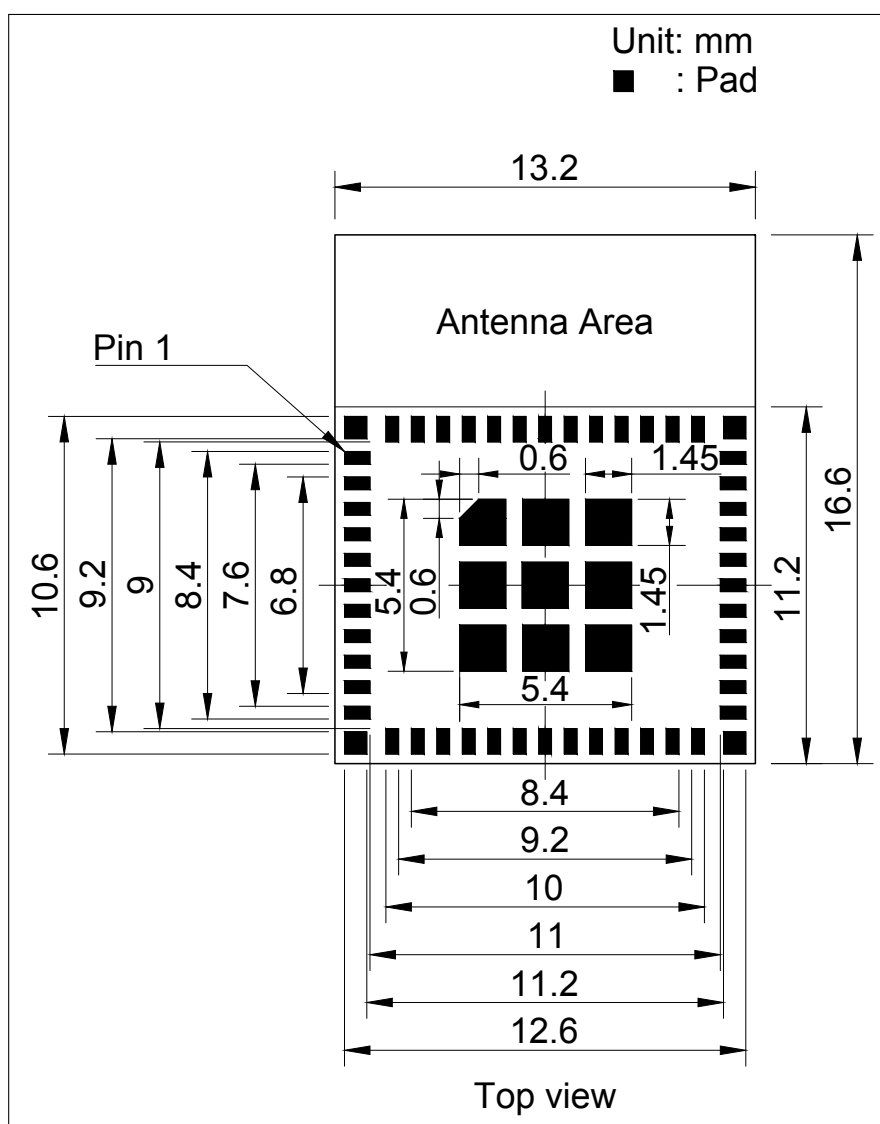
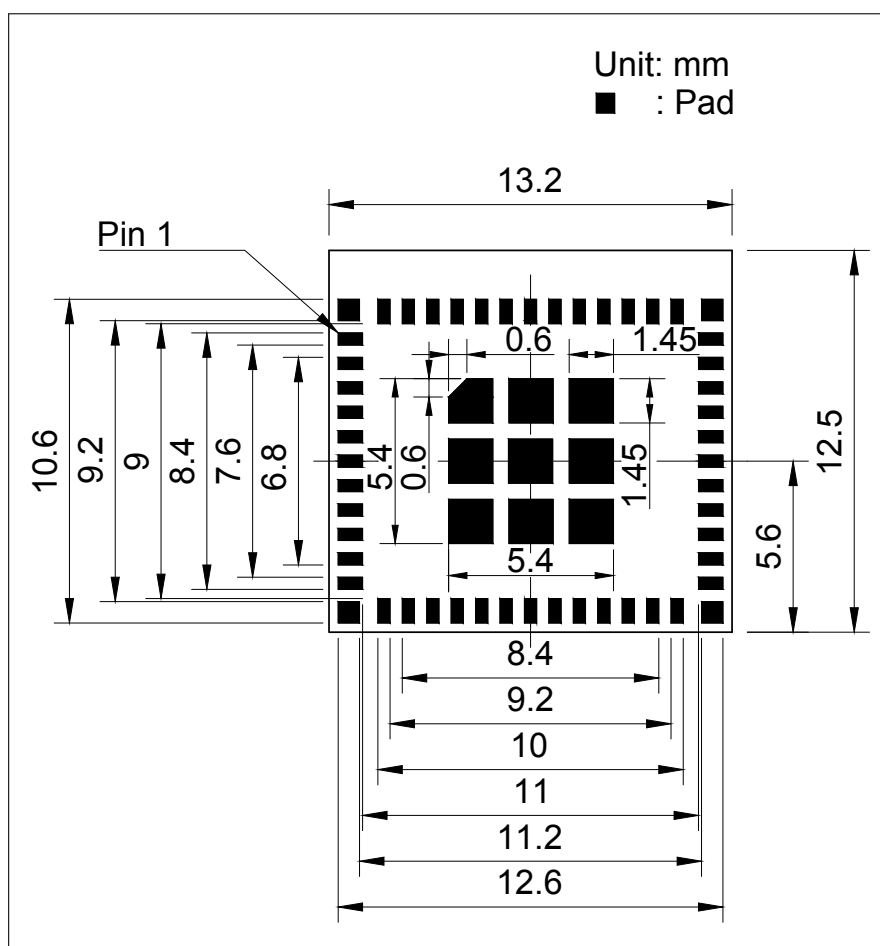

Figure 11: ESP8684-MINI-1 Recommended PCB Land Pattern
Figure 12: ESP8684-MINI-1U Recommended PCB Land Pattern
- Figures for recommended PCB land patterns with all the dimensions needed for PCB design. See Figure 11 *ESP8684-MINI-1 Recommended PCB Land Pattern* and Figure 12 *ESP8684-MINI-1U Recommended PCB Land Pattern*.
- Source files of recommended PCB land patterns to measure dimensions not covered in Figure 11 and Figure 12. You can view the source files for ESP8684-MINI-1 and ESP8684-MINI-1U with Autodesk Viewer.